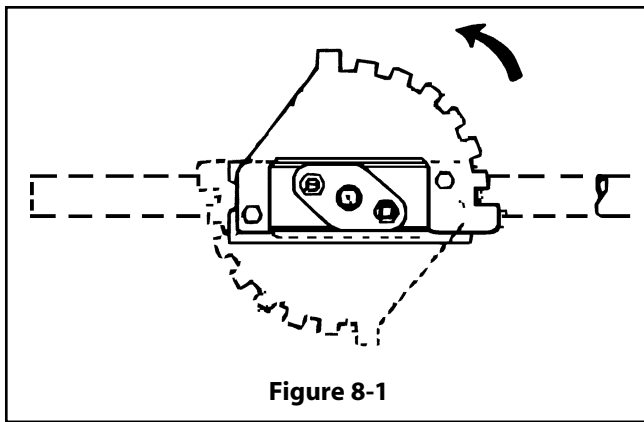

Figure 8-1
If it is necessary to remount the handle 180 degrees from its standard direction (**Figure 8-1**).
4. If the handle (**H1 in Figure 8-1**) has been removed from the valve, reinstall it on the shaft drive blade and tighten. Cast handles use a screw (H3) and nut (H5). Fabricated handles use only a set screw (H3). With the handle locking tab in the last (closed) notch of the ratchet plate, rotate the ratchet plate clockwise (when viewed from above the handle) until it is stopped by the locking tab. The disc/handle assembly is now trapped between the disc stop in the body and the ratchet plate.